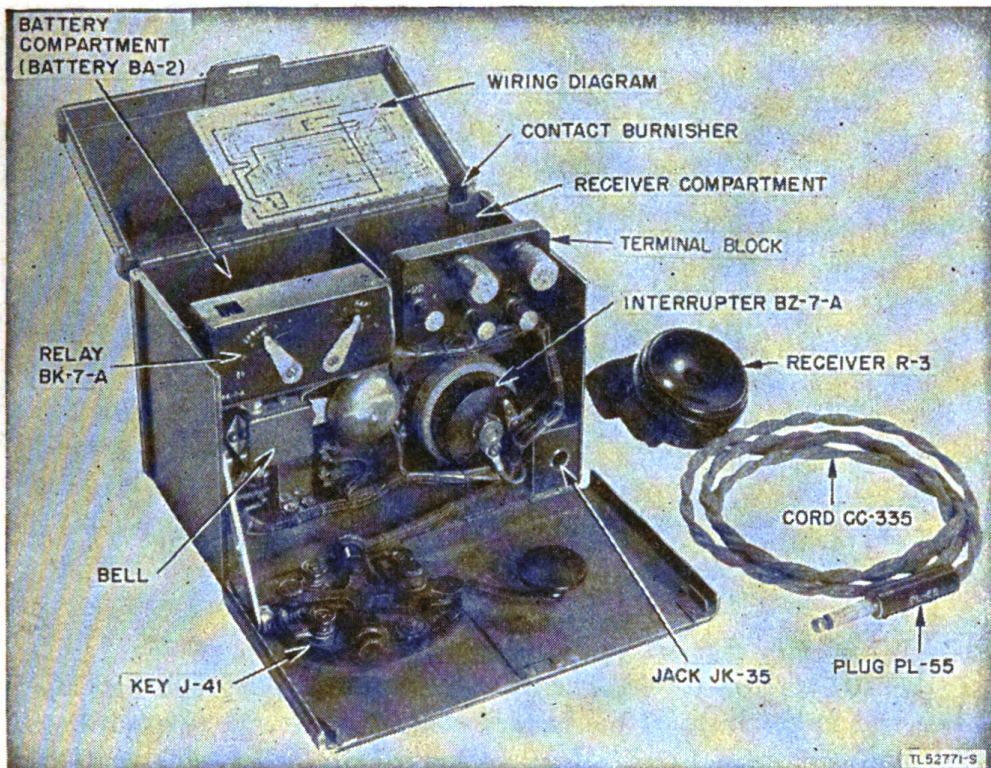

Figure 4. Telegraph Set TG-5-A, cover open.
(2) The terminal block on Telegraph Sets TG-5-A and TG-5-B consists of a molded phenolic block $2\frac{7}{8}$ inches long, $1\frac{5}{8}$ inches wide, and $\frac{3}{8}$ inches thick. Two Binding Posts TM-175 are mounted on the upper right-hand portion of the block and are labeled L1 and L2. Three Binding Posts TM-150 are mounted on the lower portion of the block and are labeled, from right to left -3, +, and -22. (See figs. 4 and 5.)
(2) *Relay BK-7-A*. Relay BK-7-A is part of Telegraph Set TG-5-A only. The relay is mounted on a bracket directly in front of the battery compartment and is similar in appearance to RELAY BK-7. Two levers mounted on the front of the relay are labeled SPRING and GAP and move over a scale graduated from 0 to 20. An opening, in the top of the relay case, provides access to the relay contacts for cleaning purposes. (See fig. 4.)
h. INTERRUPTERS BZ-7-A, BZ-7-C, AND BZ-7-J (fig. 4). Interrupter BZ-7-A, BZ-7-C, or BZ-7-J is part of Telegraph Set TG-5-A only and is mounted by means of two screws through the bottom of the box, immediately in front of the receiver compartment. It consists of a single carbon button mounted against a receiver diaphragm. When operating, the interrupter produces a continuous tone of approximately 1,000 cycles per second.